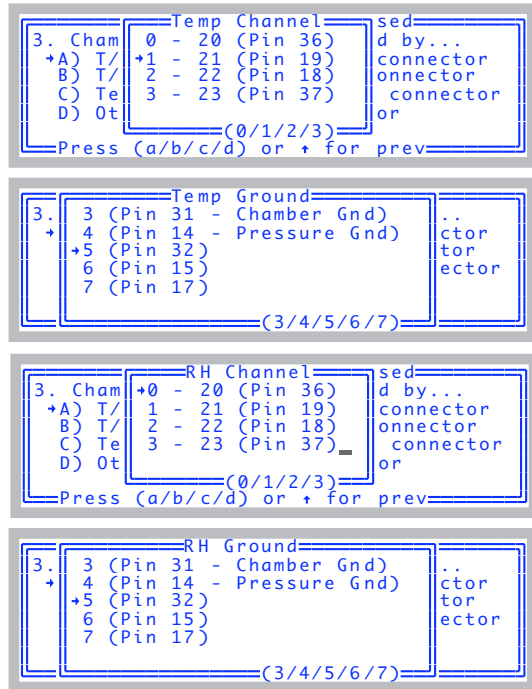

Figure 16-87. Using a Vaisala Humitter 50Y for chamber temperature. See the wiring diagram in Figure 16-49 on page 16-43.
C) Use a temperature/humidity probe (such as the Vaisala Humitter 50Y) connected to the console auxiliary port. If you select this, you will be prompted for the channels and ground being used for Temperature and for RH (Figure 16-87).
D) If something else is connected to the console auxiliary port, you will be prompted for the channel and ground for Temperature (Figure 16-87, but for temperature only).